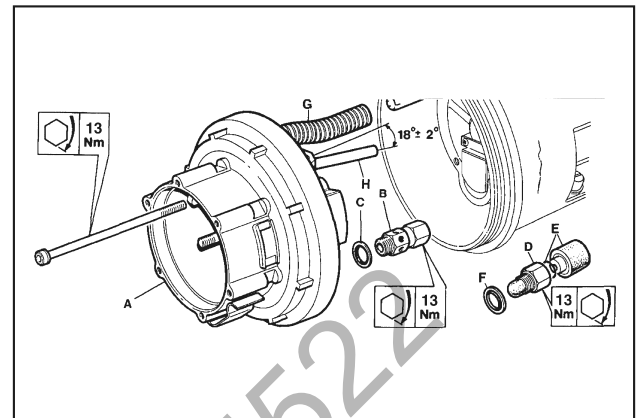

Fig 3.2 - Pressure Control and Oil Return Valve
3.3 Pressure Control, Oil Return Valve (Fig 3.2) PUTS